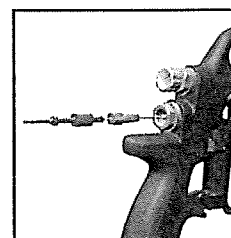

Fig. 12
5. Remove the needle assembly. (See fig 12)
6. Insert new needle assembly and new spring if necessary. (See figs 12 & 10) Ensure the spring pad is attached to the spring.